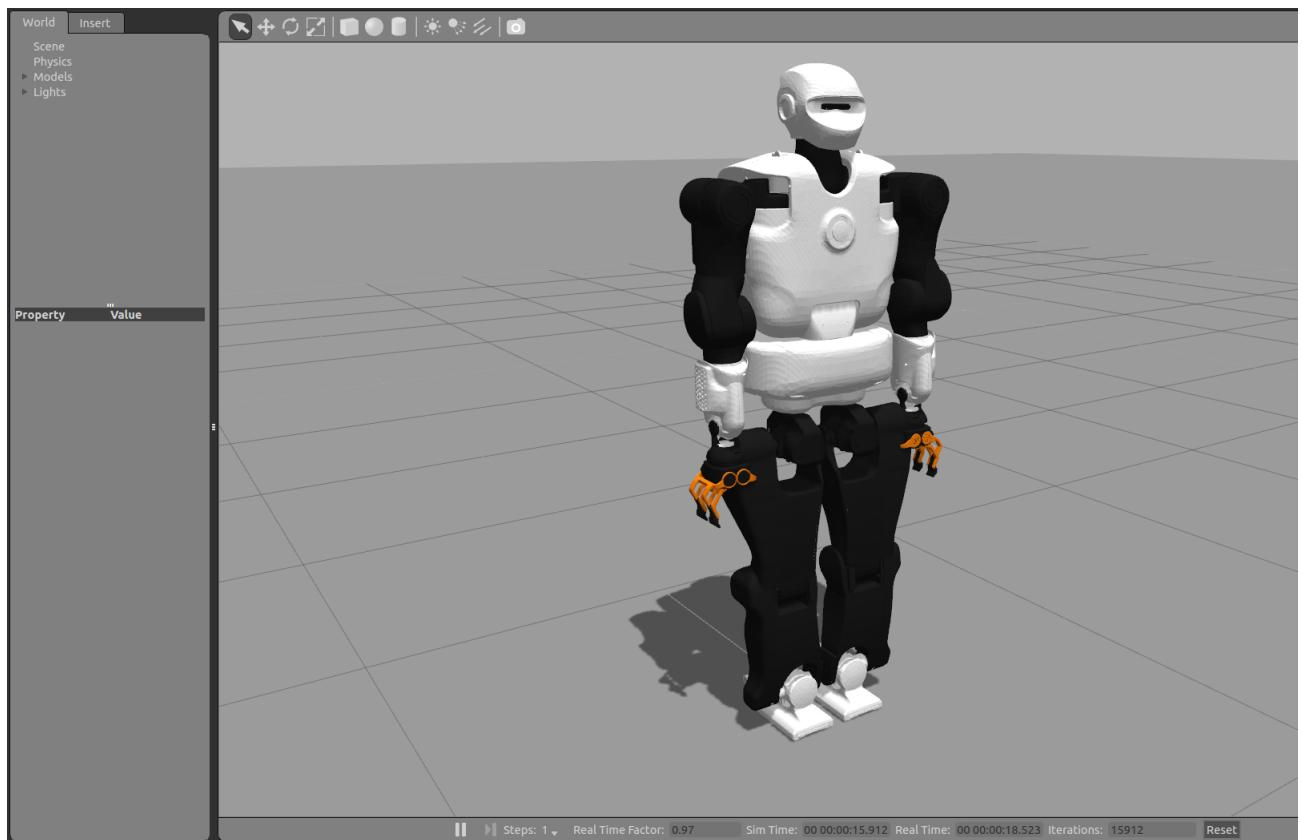

Figure 70: Simulated robot
1. Open a terminal and launch a Gazebo simulation of TALOS in an empty world (Figure 70).